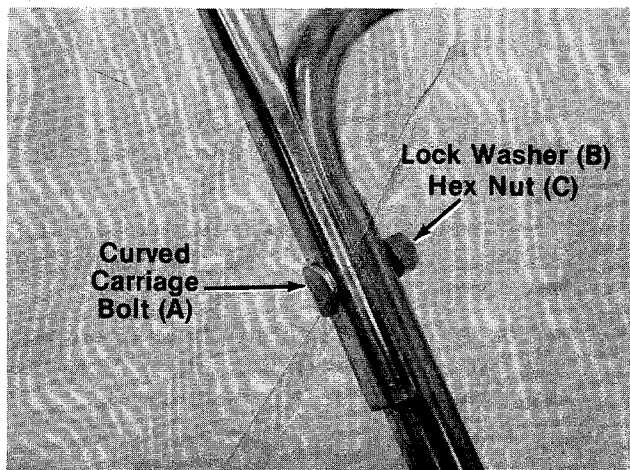

FIGURE 3.
5. Place upper handle in position over lower handle. Control housing should be on the **left** side of the handle. Secure upper handle with two curved carriage bolts (A), lock washers (B) and hex nuts (C). See figure 3.